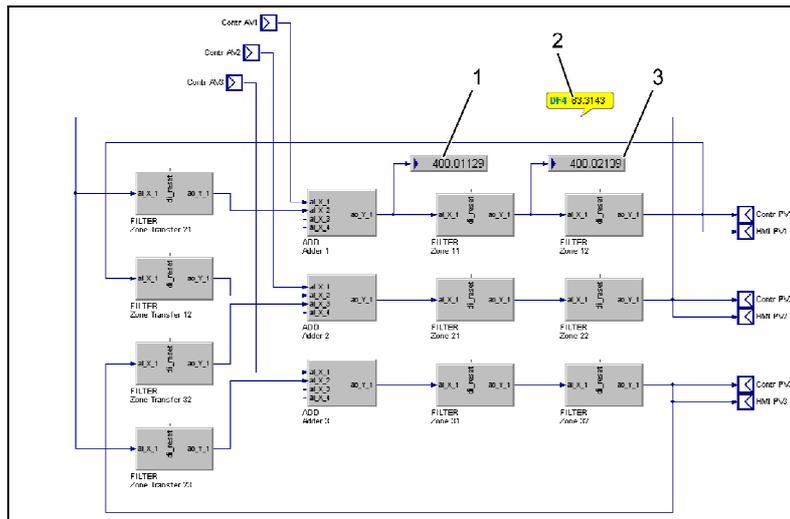

Fig. 701 Programmer project: Debugging example
- Testing an application:** There are two possibilities to localize application errors: When you position the mouse pointer on a connecting line, the relevant values are displayed (no. 2 in Fig. 701). Alternatively, special blocks from the PMA library can be used. As trouble shooting in applications is also called "Debugging", these are termed "Debug blocks". You can use these blocks to display information on the program during runtime (1 and 3 in Fig. 701). They are displayed exclusively in the development environment (i.e. not on the instrument).
- **Program blocks:** Program blocks are the basic units making up your project. Program blocks consist of function blocks (for example controllers, filters, totalizers, etc.), links between function blocks as well as inputs and outputs. An example of such a function block is given in Fig. 701. Your application may consist of max. 15 program blocks.